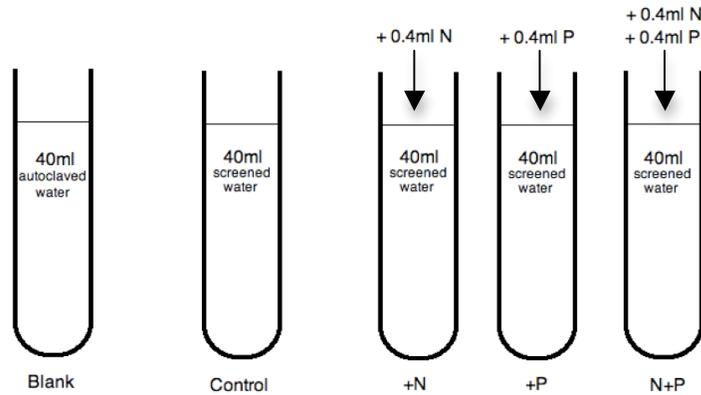

Figure 1. A diagram of the basic experimental design for this nutrient limitation assay.
- Add the following amounts to each of the labeled tubes (See Table 2 and Figure 1) Use a 100ml graduated cylinder to measure out the water samples and transfer them to the test tubes. Use 1ml pipets and a pipet-pump to transfer the nitrogen and phosphorus stock solutions. **Note: Be sure to use different pipets to transfer the two nutrients and do not mix them up!**